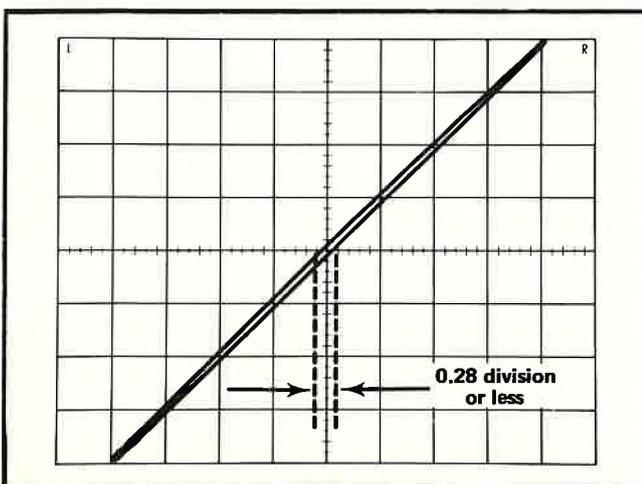

Fig. 5-16. Typical CRT display when checking X-Y phasing.
g. Obtain a display similar to the one shown in Fig. 5-16 by adjusting the output amplitude of the Type 191 for 8 divisions of horizontal deflection; then adjust the Variable (Volts/Div) control of the 7A16 in the Right Vertical compartment for 8 divisions of vertical deflection. Center the display with the 7A16 Position controls as necessary.
h. CHECK—Eye opening in the CRT display of 0.28 divisions or less (see Fig. 5-16).